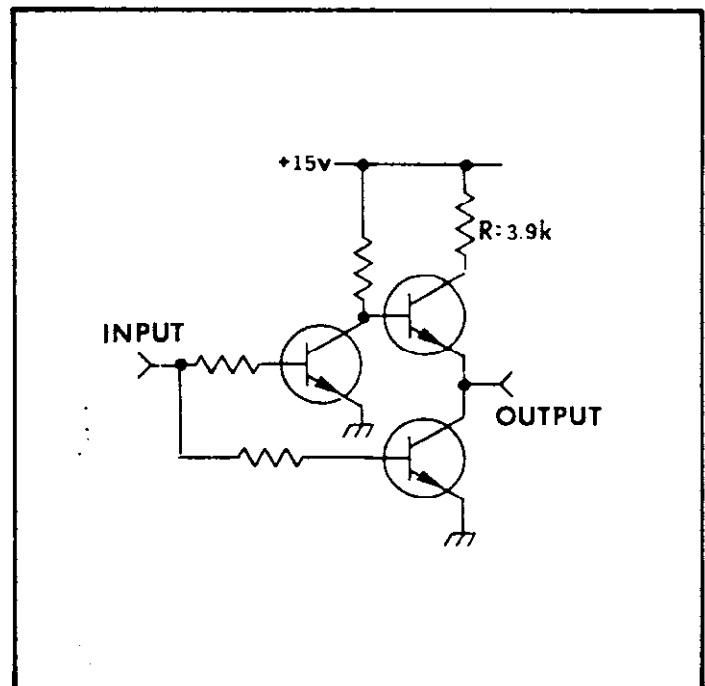

FIGURE 14. Model 4401 Buffer Stage.
g. Output Buffer Board, PC-218. This board contains 15 buffer circuits to provide BCD Data and Overload and Polarity Print signals. Buffer circuits "A" through "P" consist of transistor buffer stages as shown in Figure 14.